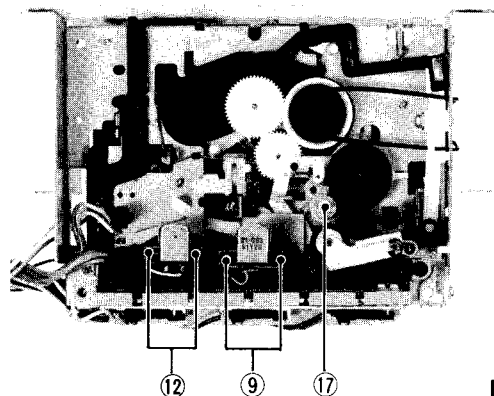

Fig. 7
5. REC/PB head (Fig. 7)
6. Erase head (Fig. 7)